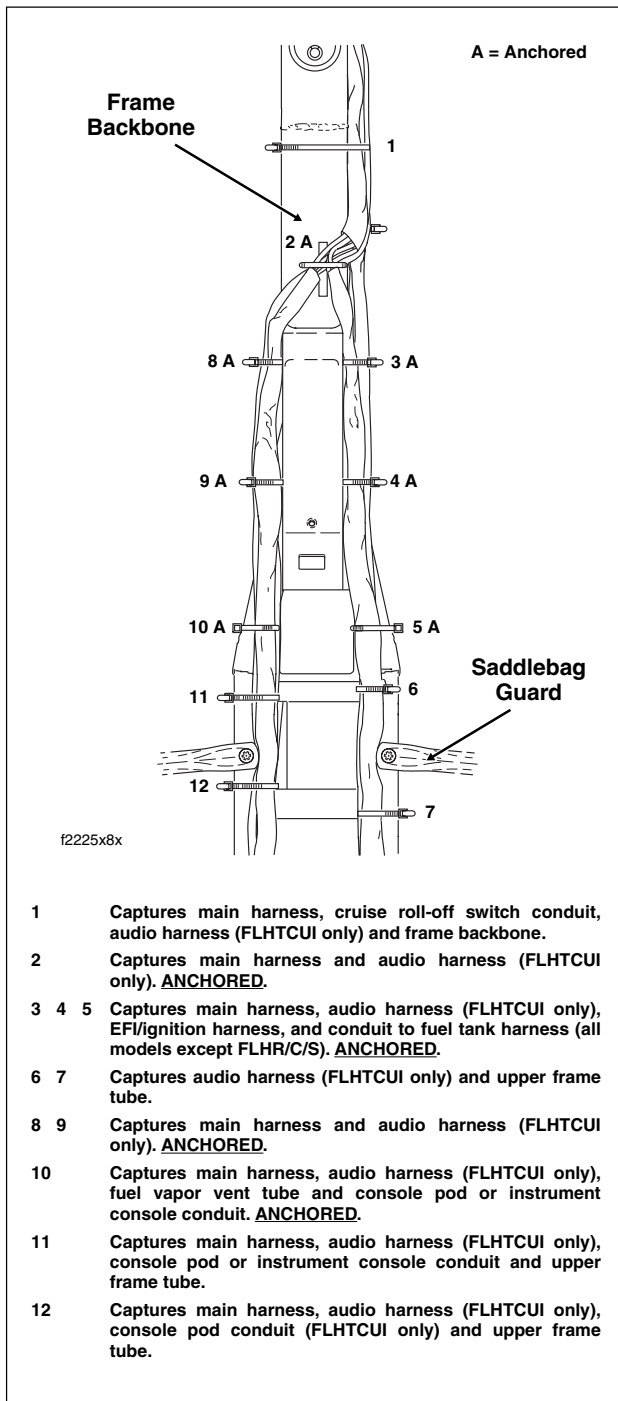

Figure 8-176. Install Cable Straps
9. Carefully cut cable straps securing audio harness to frame backbone, left and right frame tubes, and luggage rack rails. See Figure 8-176. Carefully cut cable straps securing audio harness to main harness, if present.
11. Install remaining cables straps as shown in Figure 8-176.